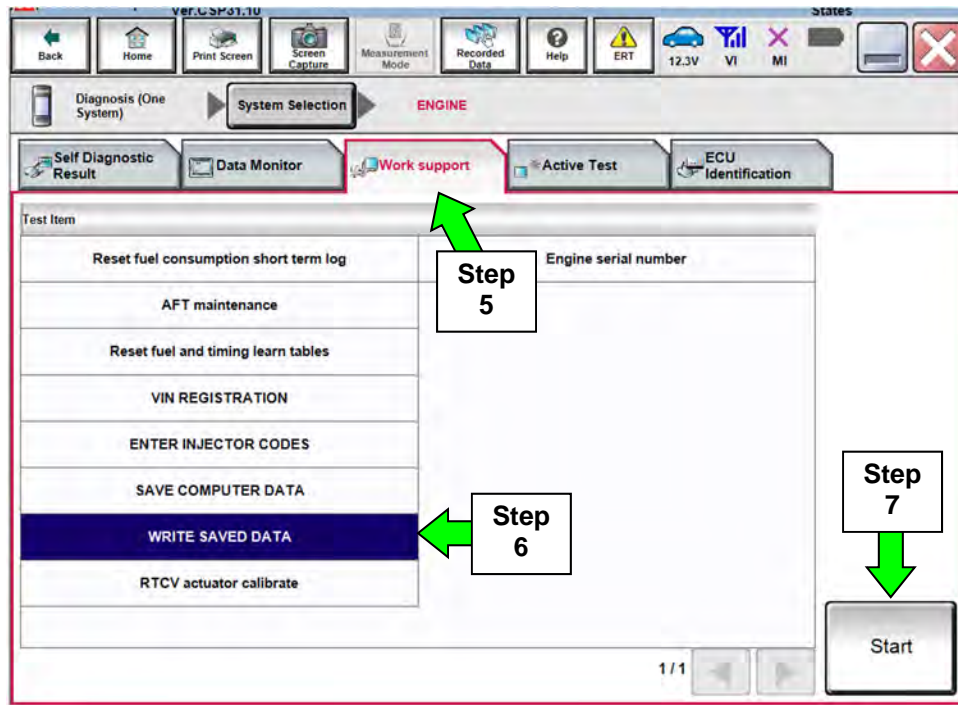

Figure 2A
5. Navigate C-III plus to **ENGINE** > **Work support** (see Figure 2A).